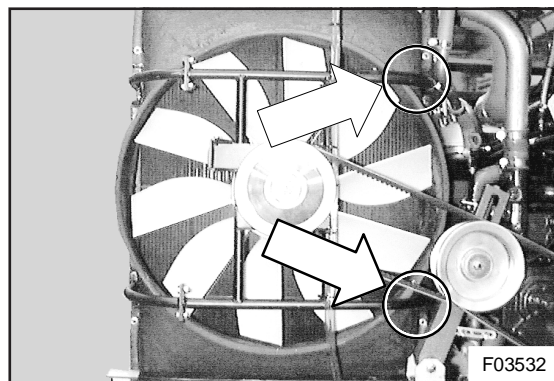

Figure 17: Fan and clutch carrier retaining bolts (right hand)
18. Withdraw three of the four bolts securing the fan and clutch carrier to the right hand side of the radiator (see Figure 17). Loosen the top bolt so that it can be removed by hand.